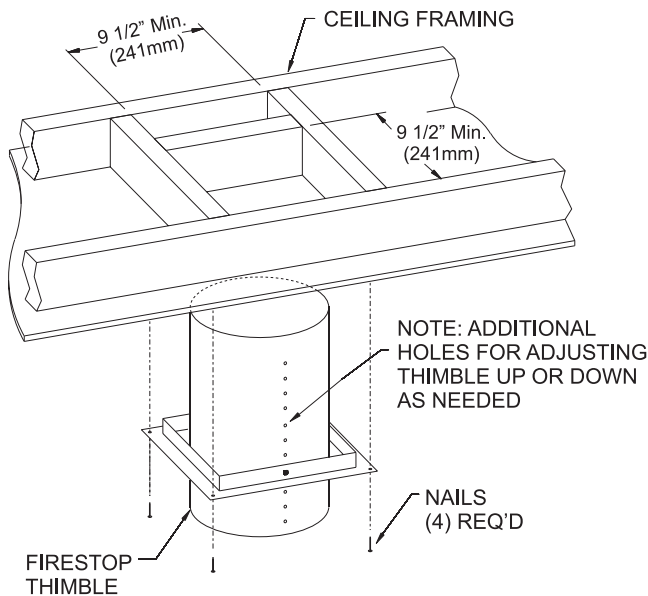

Figure 60
4. Once the fireplace location has been determined, mark the ceiling where the flex vent will pass through. Cut an opening for installation of the firestop thimble assembly. The opening must measure a minimum of 9-1/2 inch x 9-1/2 inch square. **See Figure 60.**